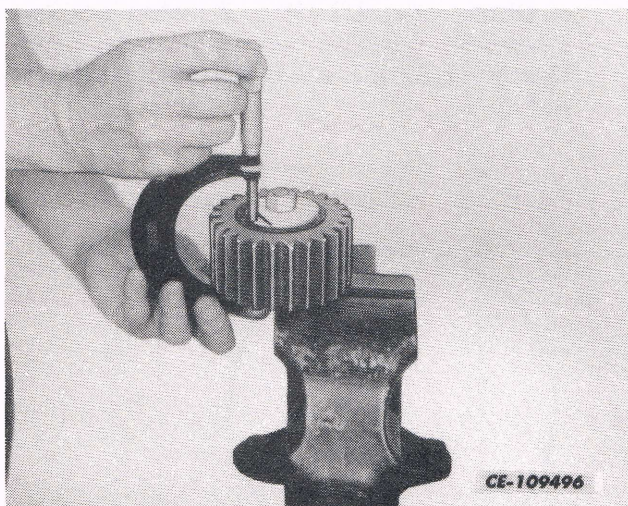

Fig. 7
d. Take a micrometer reading on the outer faces of the bearing cones where the washers are cut away as shown in Fig. 7. Record the reading obtained.